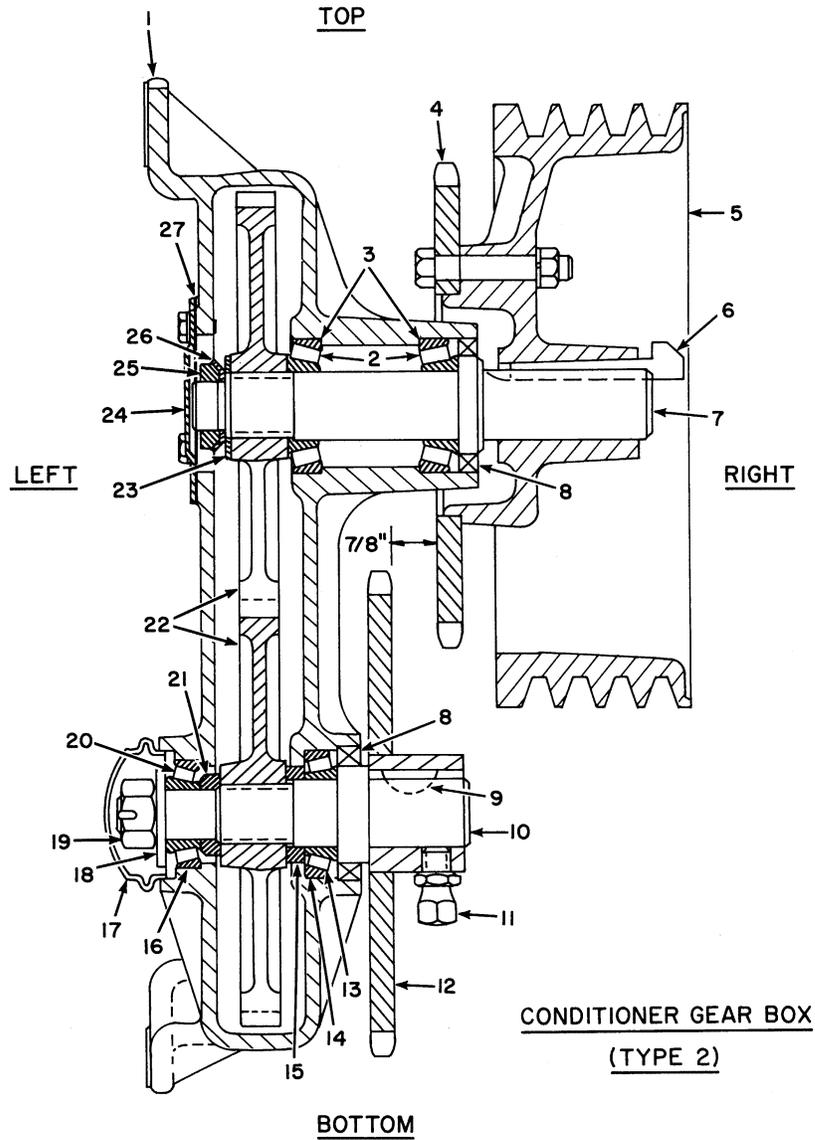
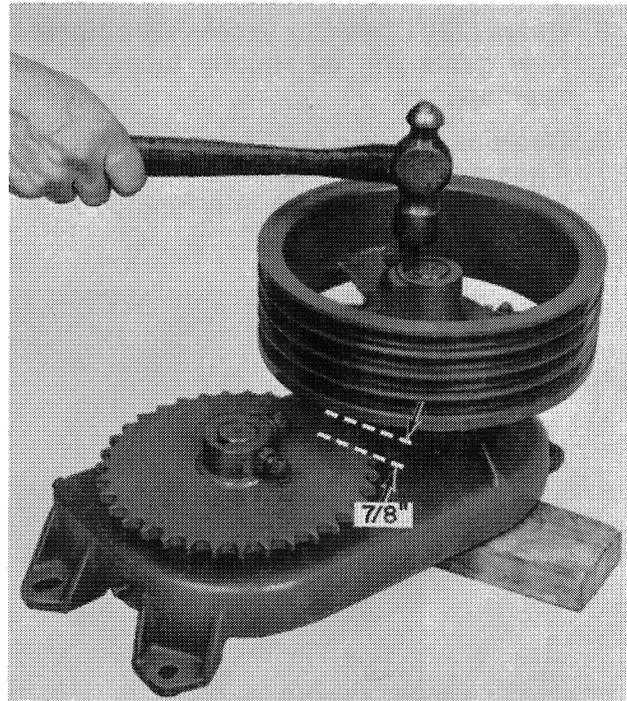

FIGURE 3
FIGURE 14
See Figure 3
4. PLACE THE LEFT INPUT BEARING CONE IN THE CUP. INSTALL THE TOP GEAR IN THE BOX, WITH THE WIDER HUB TO THE RIGHT. SEE FIGURES 3 AND 12. INSTALL THE OUTPUT (BOTTOM) GEAR WITH LONG HUB TO THE LEFT.
6. Install keyed washer (23), lock washer (26), and lock nut (25). Tighten the lock nut until a force of 2 to 6 inch-pounds is required to keep the shaft rotating at a constant speed. A small torque wrench on the right end of the input shaft can be used to measure this torque. Use a small chisel or screwdriver to bend a tab on lock washer (26) to engage a notch in lock nut (25). Bend the tab into the notch.
7. INSTALL THE OUTPUT (BOTTOM) GEAR IN THE BOX, WITH THE LONGER HUB TO THE LEFT. SEE FIGURES 3 AND 13.
10. Install woodruff key (9) and sprocket (12) on the output shaft. The sprocket hub should be against the oil seal collar. Tighten set screws and lock jam nuts (11).
11. Attach the upper roll sprocket (4) to the sheave with 3 bolts.
12. Slide sheave (5) on output shaft (7). Turn the gearbox on its side so the input shaft is on a wood block, Figure 14. Use a block or scrap hardware to space sprockets $\frac{7}{8}$ " apart. See Figures 3 and 14. Set the gib key with a large hammer.